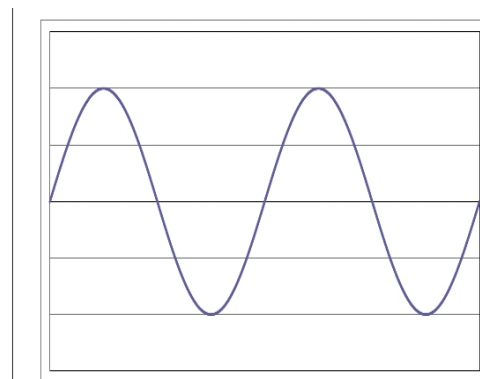

Figure 4
- Since AC voltage is a sinusoidal function, the voltage varies between the positive and negative peak values (Figure 4).